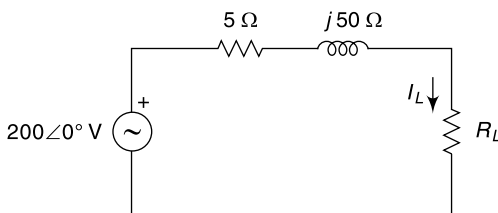

Fig. 6.16 Circuit of Ex. 6.13
6.13 In the circuit shown in Fig. 6.16 find the value of R_L which results in maximum power transfer. Also calculate the value of the maximum power.